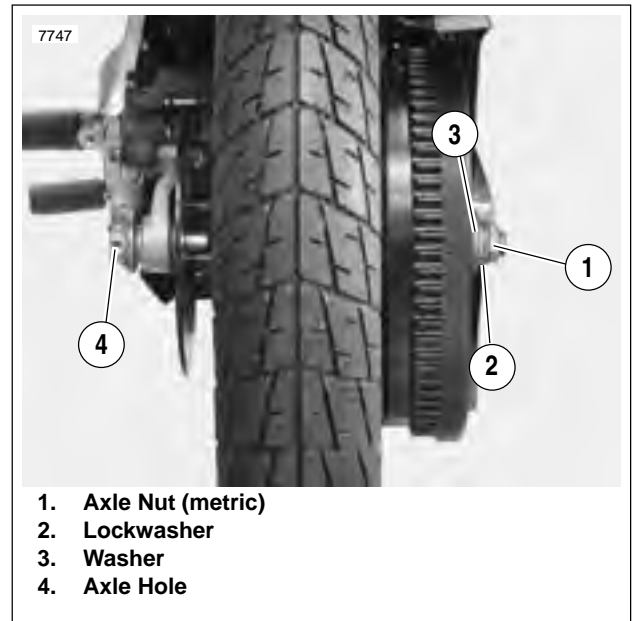

Figure 2-7. Rear Wheel Mounting
3. See Figure 2-7. Place rod or screwdriver through axle hole. Loosen rear axle nut (1) (metric).